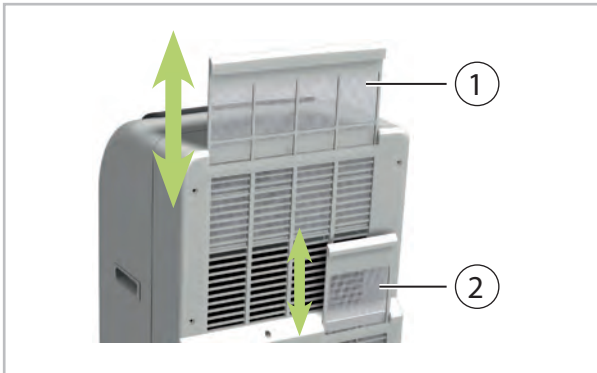

Fig. 15: Filter removal
2. ➤ Pull the filter out of the unit (Fig. 15).